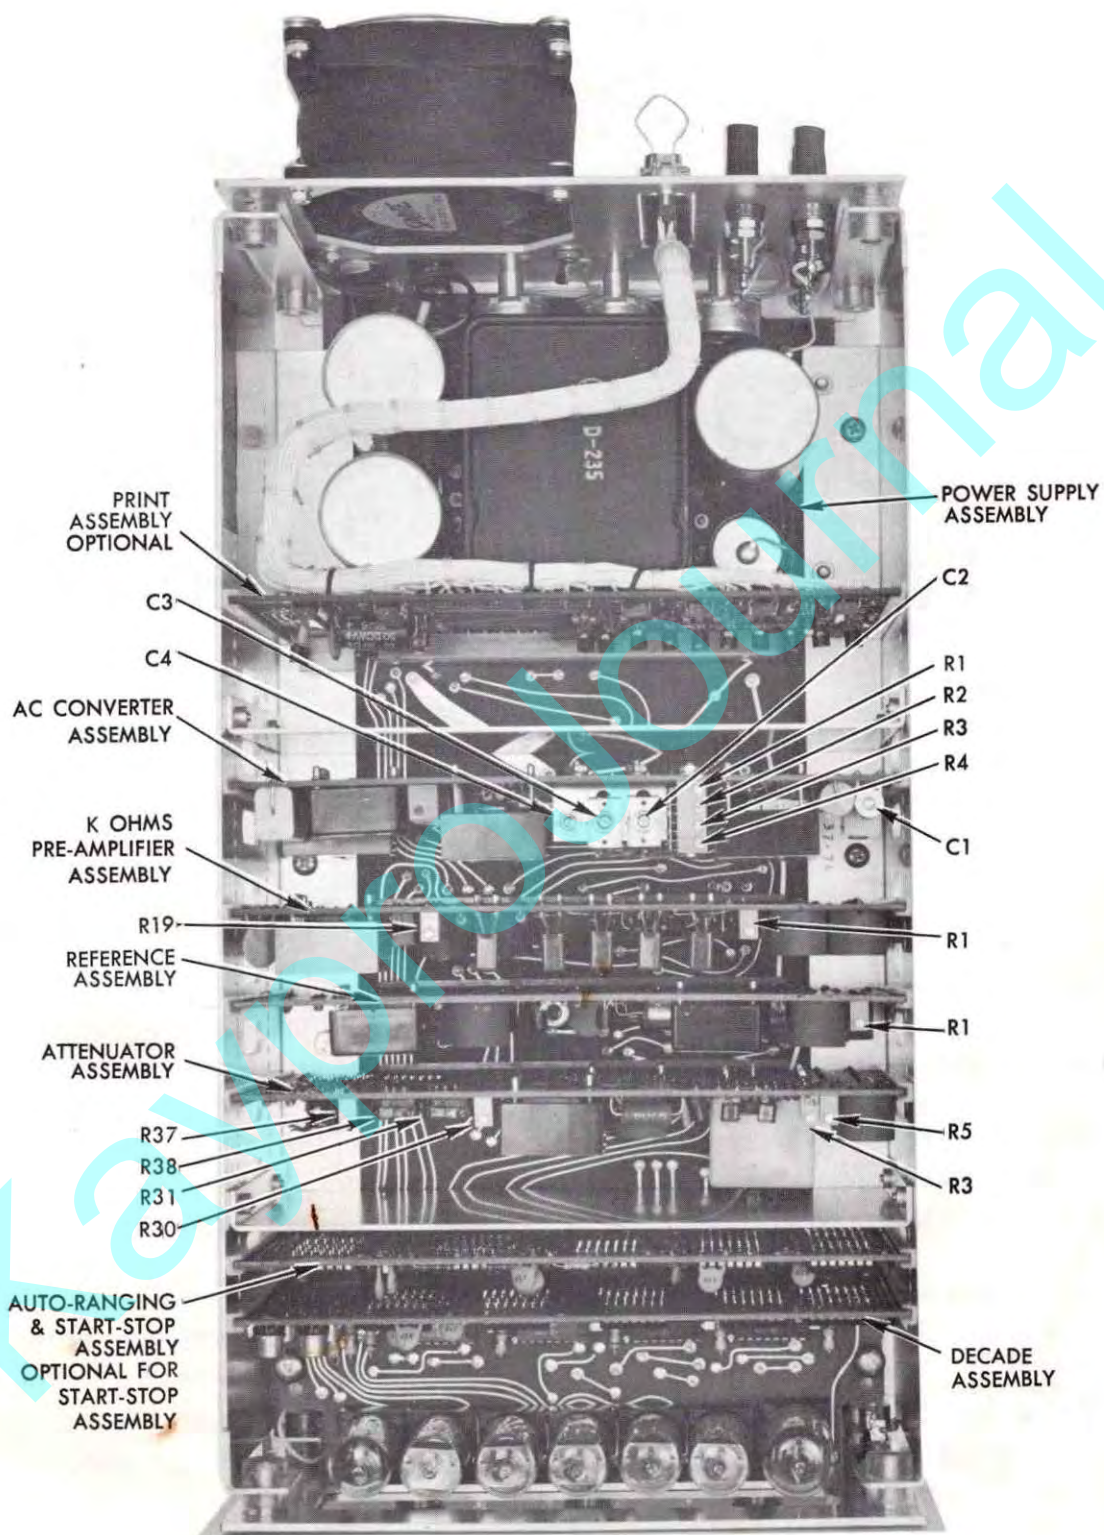

Figure 3-2. Location of Major Subassemblies and Adjustment Points
1. Remove the reference assembly, P/N 37-36, from instrument (Figure 3-2).
3. The numerical value displayed in the readout should be equal to the voltage of the voltage standard. If it is not, adjust potentiometer R30 (Figure 3-2) of the Attenuator Assembly, P/N 37-39, until the readout displays the correct value. Note that input impedance of DVM is 10 Megohms.
Potentiometers R31 and R38 (Figure 3-2) have been adjusted and sealed at the factory and must not be adjusted in the field. They are temperature coefficient compensators for the $\pm$ prime calibration.
3. The numerical value displayed in the readout should be equal to the voltage of the voltage standard. If it is not, adjust potentiometer R37 (Figure 3-2) of the Attenuator Assembly until the readout displays the correct value.
4. The numerical value displayed in the readout should be equal to the voltage of the voltage standard. If it is not, adjust potentiometer R5 (Figure 3-2) of the Attenuator Assembly until the readout displays the correct value.
4. The numerical value displayed in the readout should be equal to the voltage standard. If it is not, adjust potentiometer R3 (Figure 3-2) of the Attenuator Assembly until the readout displays the correct value.
7. Apply approximately 450.00 volts, 200 Hz and adjust R1 (Figure 3-2) of the AC Converter Assembly until the numerical value displayed in the readout is equal to the voltage applied.
8. Apply approximately 450.00 volts, 10K Hz and adjust C1 (Figure 3-2) of the AC Converter Assembly until the numerical value displayed in the readout is equal to the voltage applied.
9. Place the range switch in the 100 position. Apply approximately 90.00 volts, 200 Hz and adjust R2 (Figure 3-2) of the AC Converter Assembly until the
10. Apply approximately 90.00 volts 10 K Hz and adjust C2 (Figure 3-2) of the AC Converter Assembly until the numerical value displayed in the readout is equal to the voltage applied.
11. Place the range switch in the 10 position. Apply approximately 9.000 volts, 200 Hz and adjust R3 (Figure 3-2) of the AC Converter Assembly until the numerical value displayed in the readout is equal to the voltage applied.
13. Apply approximately 0.9000 volts, 200 Hz and adjust R4 (Figure 3-2) of the AC Converter Assembly until the numerical value displayed in the readout is equal to the voltage applied.
14. Apply approximately 0.9000 volts, 10K Hz and adjust C4 (Figure 3-2) of the AC Converter Assembly until the numerical value displayed in the readout is equal to the voltage applied.
7. Apply approximately 95.00 millivolts and adjust R19 of the Ohms Converter/Pre-Amplifier Assembly (Figure 3-2) until the numerical value displayed in the readout is equal to the voltage of the voltage standard.
15. Apply approximately 9000 K Ω and adjust R1 (Figure 3-2) of the ohms converter and pre-amplifier assembly until the numerical value displayed in the readout is equal to the ohmic value applied.